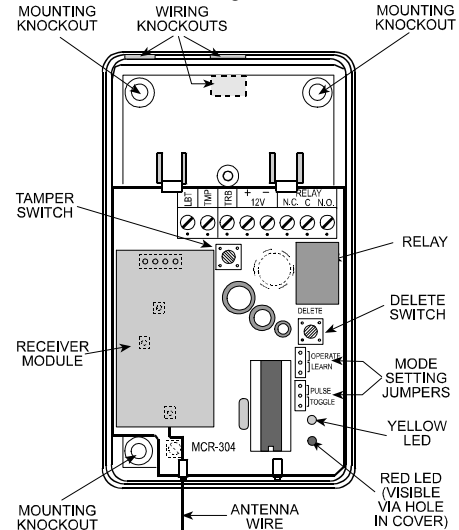

Figure 2. MCR-304 with Cover Removed
For construction details, refer to Figure 2.
- A. Hold the base against the mounting surface and mark the points for drilling (see mounting holes in Figure 2).